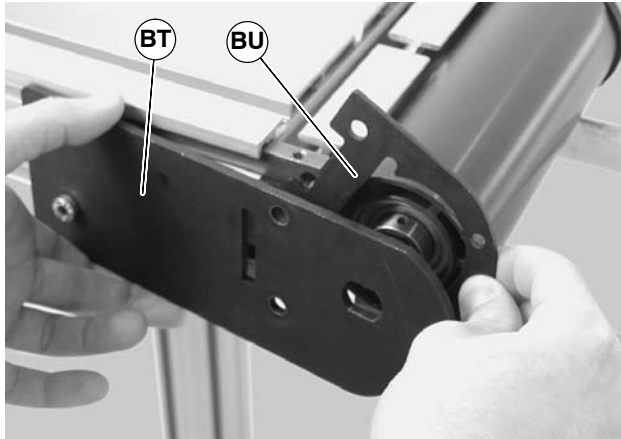

Figure 49
3. Pull back the outer headplate (BT of Figure 49) and remove the inner spacer (BU).